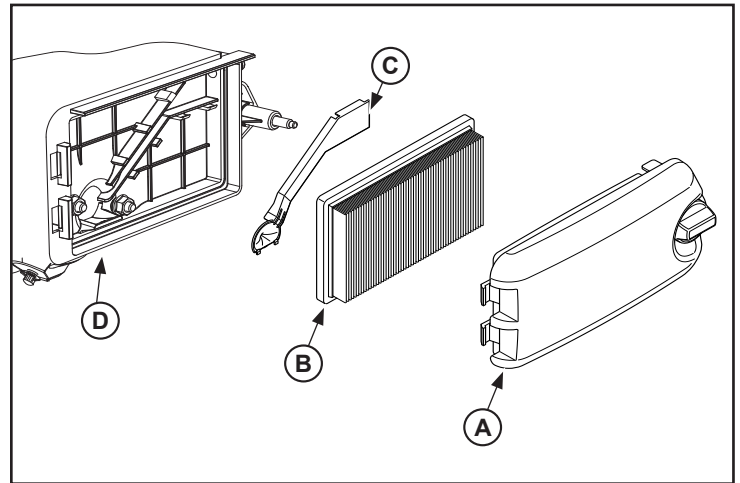

Figure 2. Cover, Air Filter, and Breather Cover.
1. Remove the air cleaner cover (A), air cleaner (B), and breather cover (C) from the air cleaner base (D). See Figure 2.